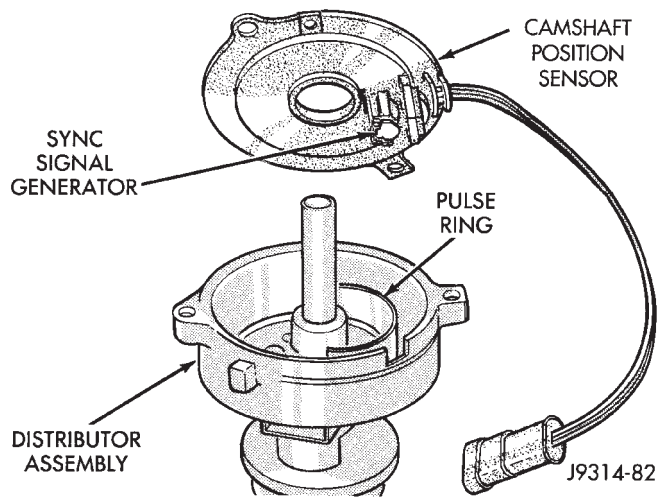

Fig. 3 Camshaft Position Sensor
The camshaft position sensor is located in the distributor (Fig. 3).
- (1) Disconnect negative battery cable at battery.
- (2) Remove distributor cap from distributor (two screws).
- (3) Disconnect camshaft position sensor wiring harness from main engine wiring harness.
- (4) Remove distributor rotor from distributor shaft.
- (5) Lift the camshaft position sensor assembly from the distributor housing (Fig. 3).